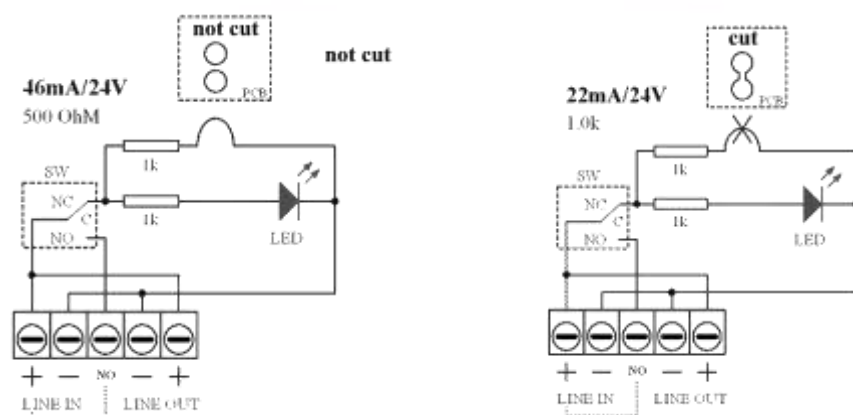

Fig.1
- Connect the electric cables according to the diagram (fig.1);